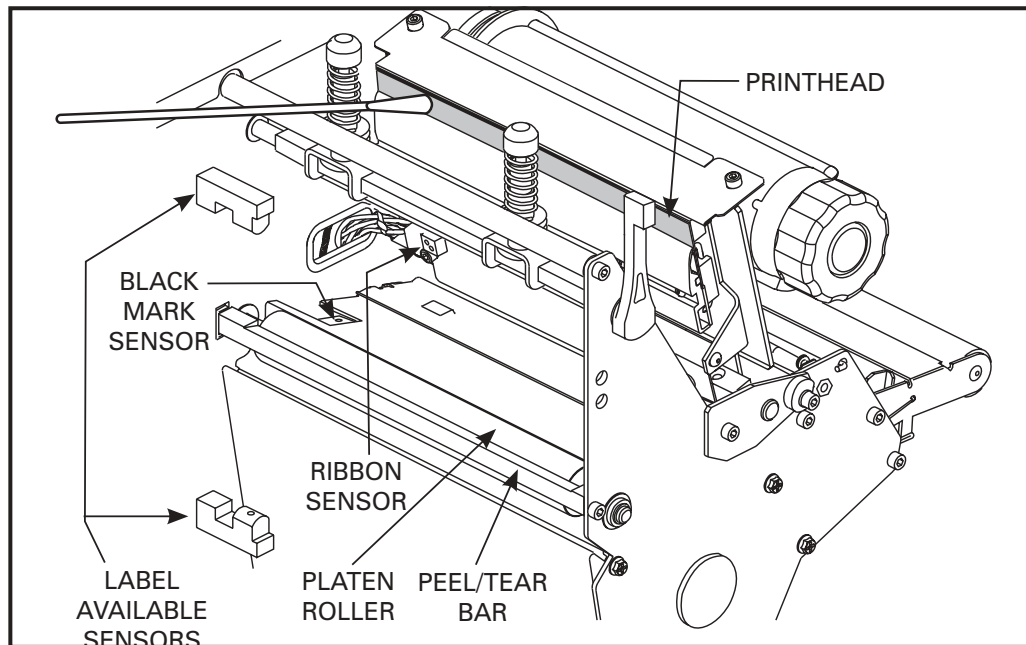

Figure 11. Cleaning Diagram
To clean the printhead, refer to Figure 11 and follow these steps:
2. Open the Printhead by moving the Printhead Open Lever to the open position (as shown in Figure 11).
The Media, Ribbon, and Label Available Sensors should be cleaned on a regular basis to ensure proper operation of the printer. To locate the position of these sensors, refer to Figure 11 above, Figure 4 on page 16, and Figure 5 on page 17. Brush/vacuum any accumulated paper lint and dust off of these sensors.